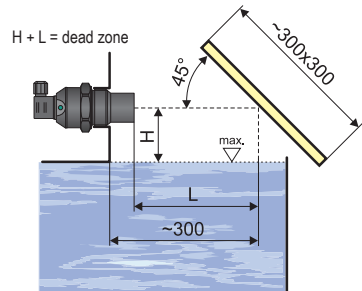

Fig. 10: Reflection board
- o) To lower the minimum distance to the medium measured, a **reflection board** made from a solid, even and smooth material can be installed together with the device (Fig. 10). The tank can be thus filled nearly up to the maximum volume. The solution is suitable for open tanks and reservoirs.